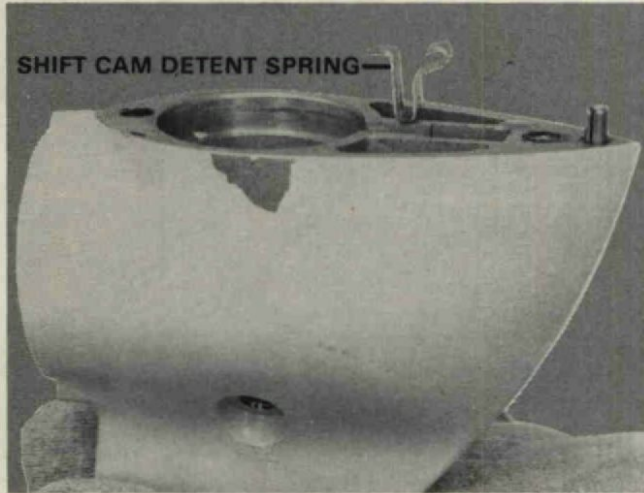

Figure 37. Installing Shift Cam Detent Spring.
7. Install shift cam detent spring in hole in front of bevel pinion. Figure 37.